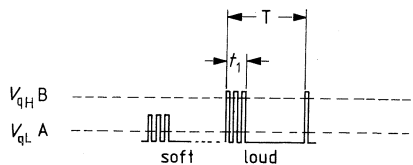

Figure 6
**Tone II** (see fig. 6)H output voltage